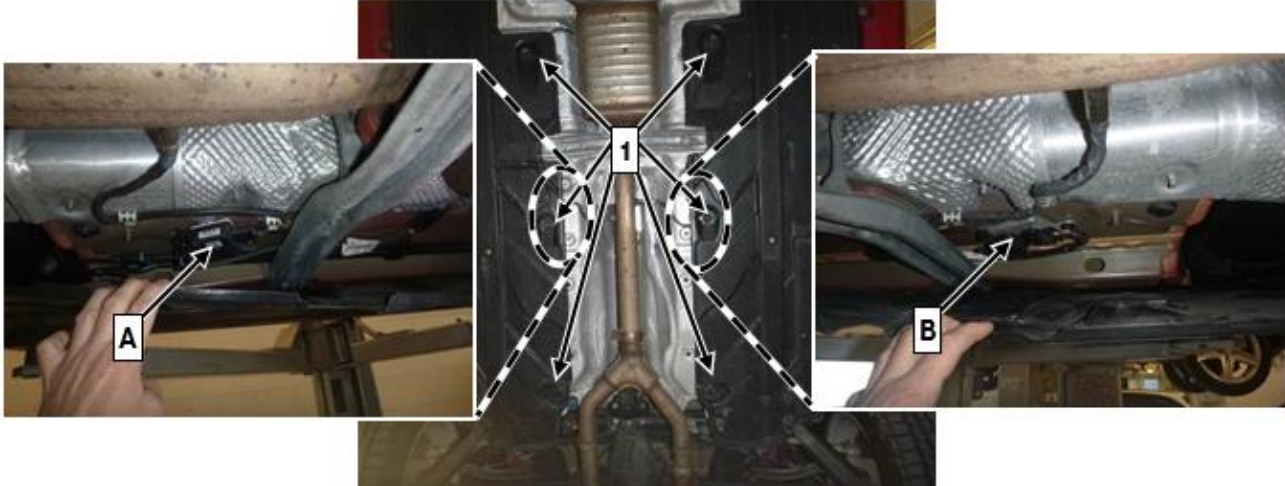

Figure 5
- Only loosen the rear underbody panelling (**right and left**) (**Figure 5**).
- i** Loosen inner plastic nuts (**1**, **Figure 5**) to do this.
7. Release the NOx sensor (**A**, **Figure 5**) and particulate sensor (**B**, **Figure 5**) control units downstream of the SCR on the underbody (**AR14.40-P-2038CD**). The NOx sensor and particulate sensor control units will be replaced.
- i** To do so, push the underfloor paneling downward slightly (**Figure 5**).